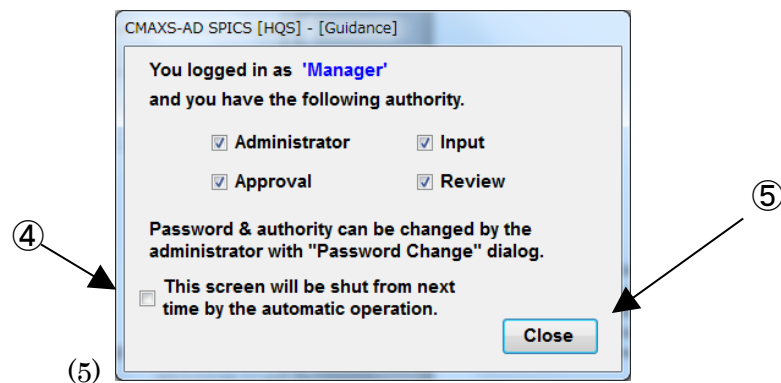

Fig.3-2-2 Guidance Dialog
- (3) "Guidance Dialog"(Fig.3-2-2) is displayed.
(5) Select [Close] button on “Guidance Dialog”(Fig.3-2-2).